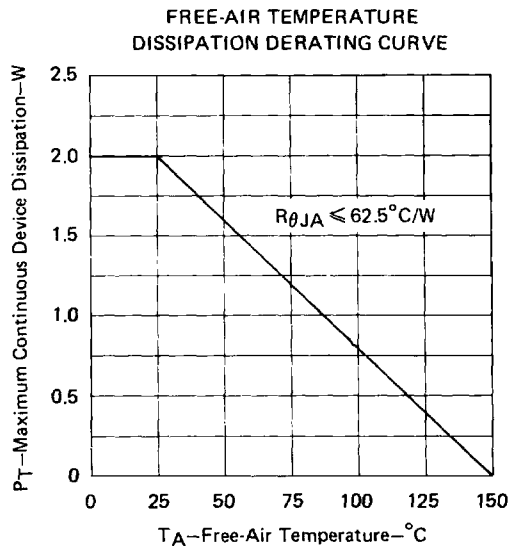

FIGURE 10
4. Derate linearly to 150°C free-air temperature at the rate of $16 \text{ mW}/^\circ\text{C}$ or refer to Dissipation Derating Curve, Figure 10.